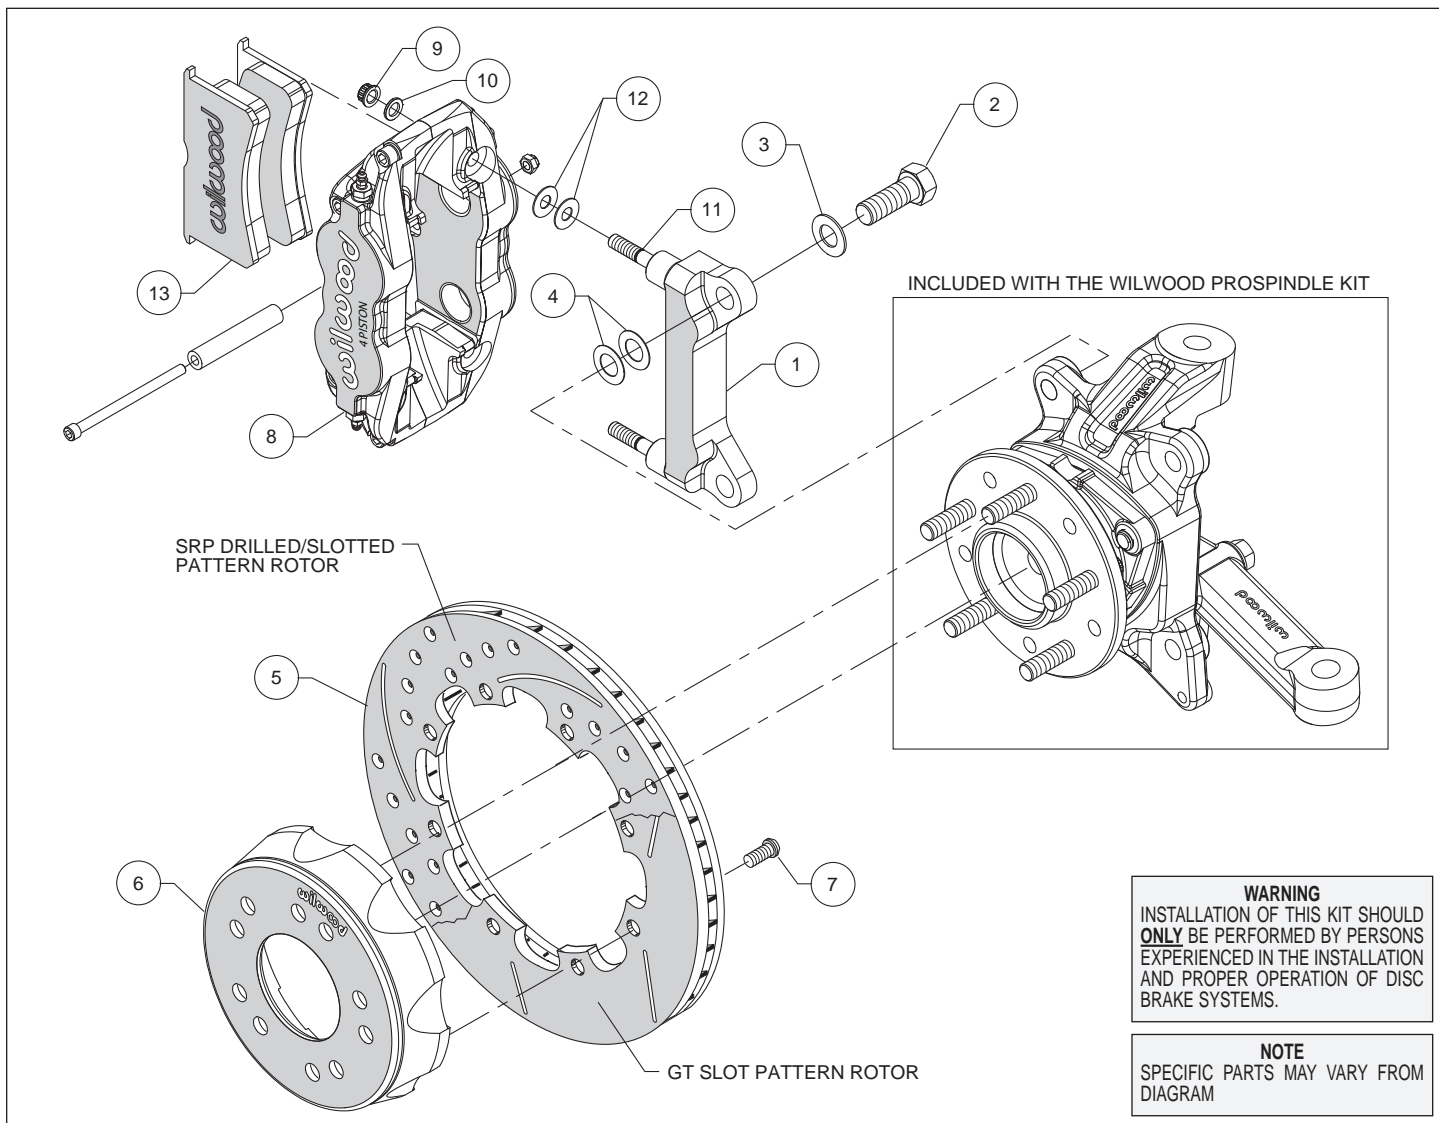

Figure 1. Typical Installation Configuration
**Assembly Instructions** (numbers in parenthesis refer to the parts list and Figure 1 on the preceding pages):
- The caliper mount bracket (1) should initially be installed with clean, dry threads on the mounting bolts. Orient the bracket as shown in Figure 1 and Photo 1 and install using mount bolts (2) and washers (3). Initially place two .024" thick shims (4) on each bolt between the bracket and spindle, Figure 1. Temporarily tighten the mounting bolts. **NOTE:** The bracket must fit squarely against the mounting points on the spindle. Inspect for interference from casting irregularities, machining ridges, burrs, etc. Later, after the caliper alignment has been checked, the mount bolts will be secured using red Loctite® 271.
- Orient the rotor (5) and the hat (6) as shown in Figure 1 and Photo 2. Attach rotor to hat using bolts (7). Using an alternating sequence, apply red *Loctite*® 271 to the threads, and torque to 25 ft-lbs.
- Lubricate the caliper mounting studs (11) with lightweight oil. Initially place two .035" thick shims (12) on each stud as shown in Figure 1 and Photo 5. Mount the caliper (8) onto the bracket (1) using lock nuts (9) and washers (10), Figure 1. Temporarily tighten the lock nuts and view the rotor through the top opening of the caliper. The rotor should be centered in the caliper, Photo 6. If not, adjust by adding or subtracting shims (4) between the bracket and the spindle. Always use the same amount of shims on each of the two mounting bolts. Once the caliper alignment is correct, remove the bracket mounting bolts one at a time, apply red *Loctite*® 271 to the threads, and torque to 140 ft-lb.